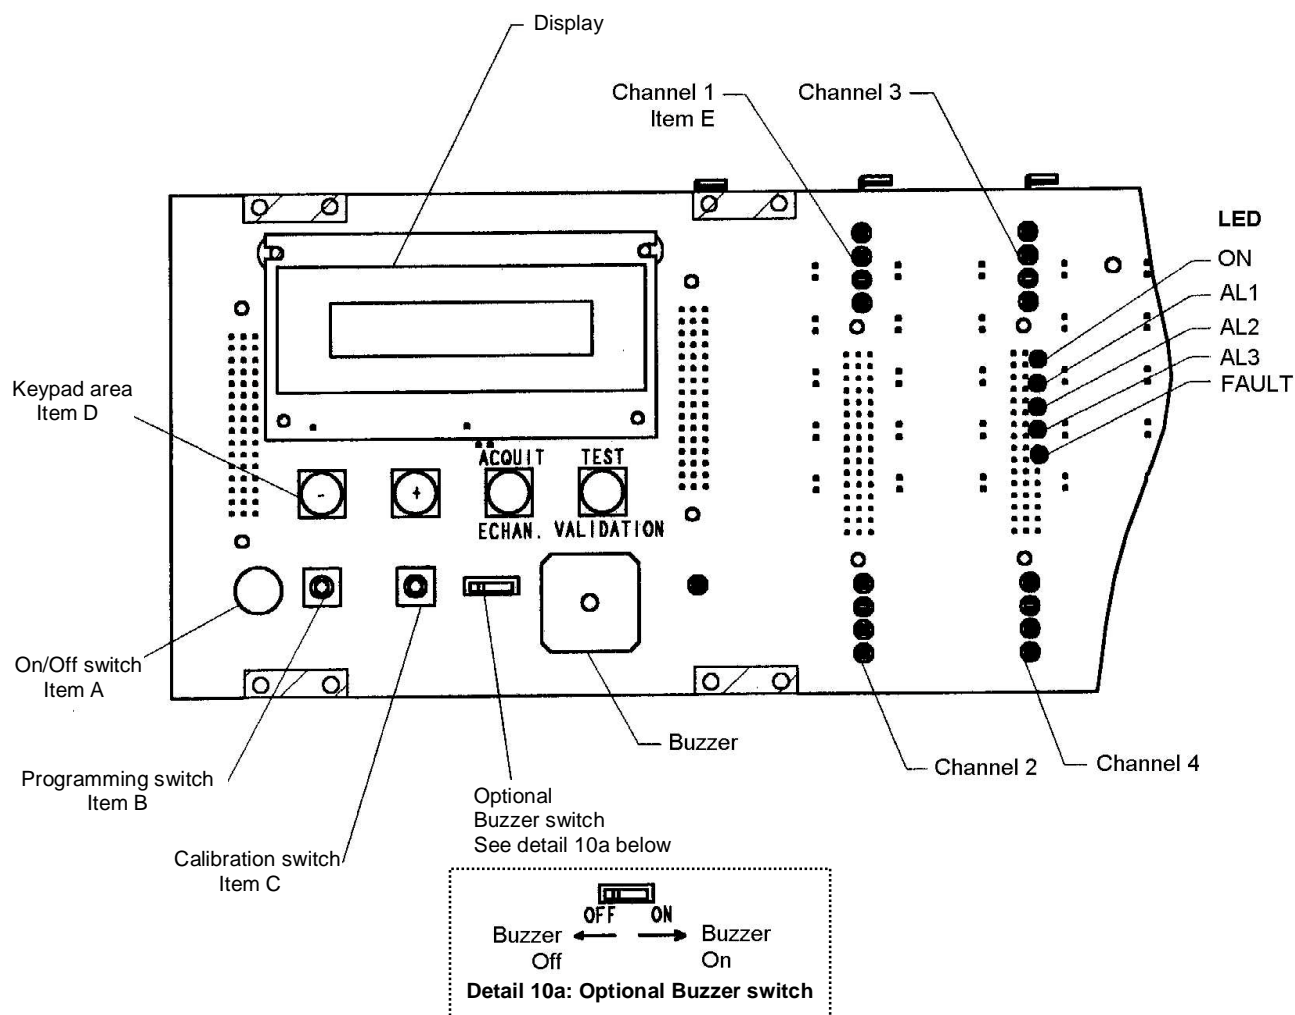

Figure 10: Operation Components
The user can carry out a “manual-self test” by pressing the test key at any time (see Figure 10).
5.2.2 Light-emitting diodes (LED) (Figure 10)
5.3.1 Keypad (see Figures 10 and 4)
The keypad is equipped with four touch switches accessible without opening and swiveling the MX52 CONTROL FRONT panel. See Item D, Figure 10
PROGRAMMING key (Item B, Figure 10): accessible after opening and swiveling the front panel.
CALIBRATION key (Item C, Figure 10): accessible after opening and swiveling the front panel.